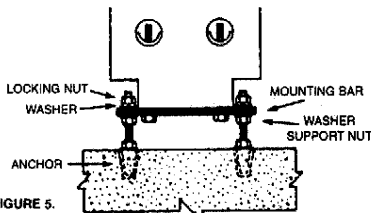

FIGURE 5.
- Insert expansion shields or other floor fastening and position 3/8" threaded rods, each secured with a flat washer and nut at floor level. See figure 5.